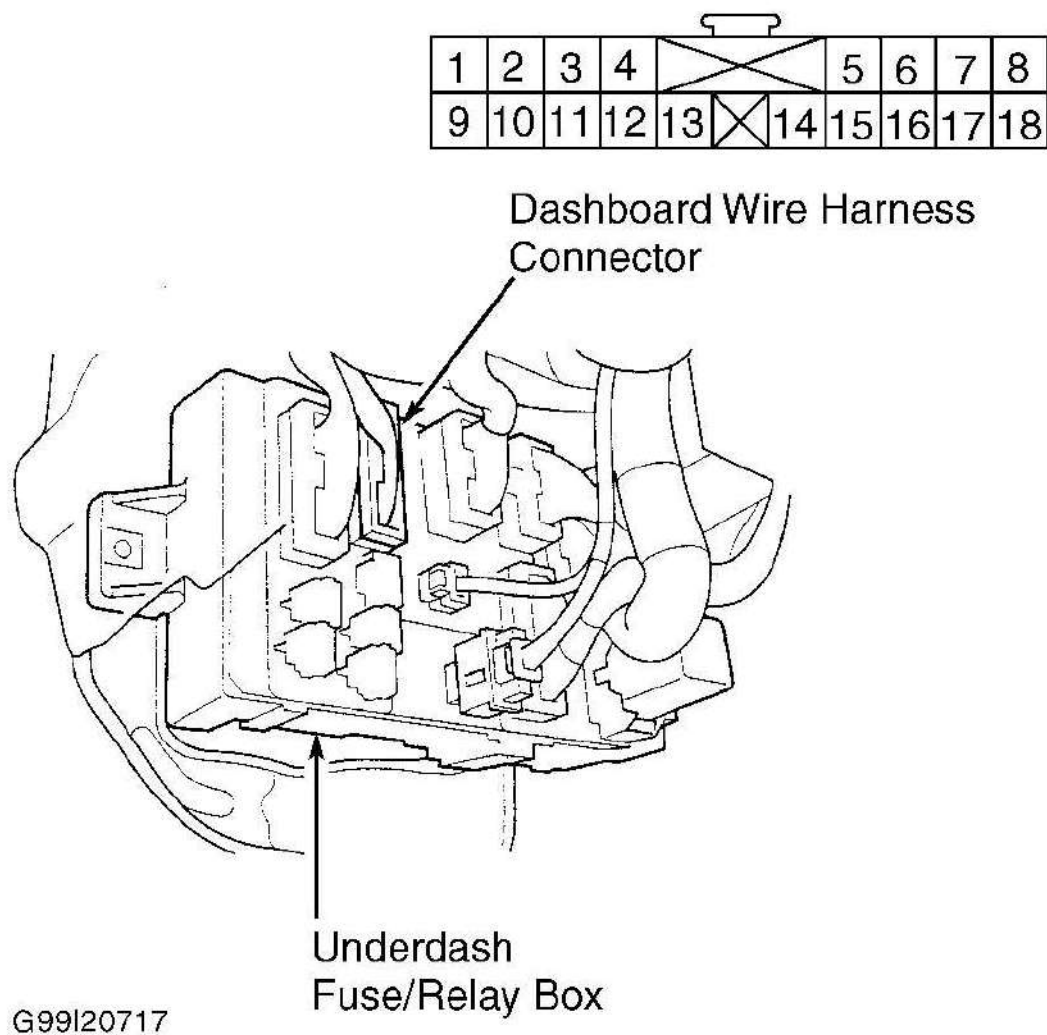

Fig. 34: Identifying Instrument Panel Wire Harness Connector
4. Turn ignition off. Disconnect left floor wire harness 12-pin (or 2-pin without touring package) connector from instrument panel 12-pin wire harness. See **Fig. 34** . Turn ignition on. Measure voltage between instrument panel wire harness 12-pin connector terminal No. 6 (No. 2 for 2-pin connector) and ground. If battery voltage does not exist, replace instrument panel wire harness. If battery voltage exists, check for open in OPDS unit harness. If OPDS unit harness is okay, replace left floor harness.
7. Turn ignition off. Disconnect left floor wire harness 12-pin (or 2-pin without touring package) connector from instrument panel 12-pin wire harness. See **Fig. 34** . Turn ignition on. Measure voltage between OPDS unit wire harness 8-pin connector terminal No. 3 and ground. If voltage is less than 0.5 volt, replace left floor wire harness. If voltage is more than 0.5 volt, replace instrument panel wire harness.
9. Turn ignition off. Disconnect left floor wire harness 12-pin (or 2-pin without touring package) connector from instrument panel 12-pin wire harness. See **Fig. 34** . Turn ignition on. Measure voltage between instrument panel wire harness 12-pin connector terminal No. 1 (No. 1 for 2-pin connector) and ground. If battery voltage does not exist, replace instrument panel wire harness. If battery voltage exists, instrument panel, wire harness.